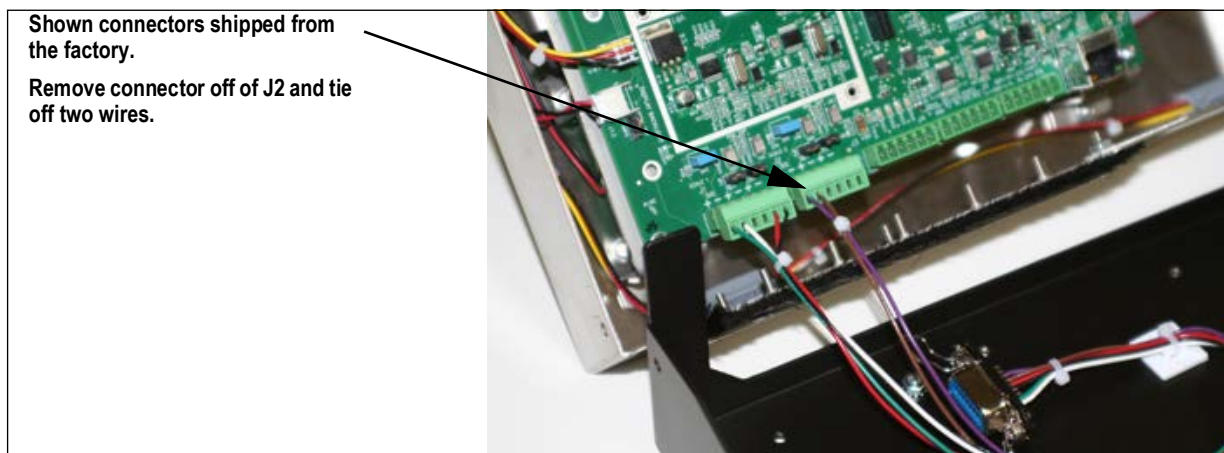

Figure 2-8. J2 Connector Location
3. Plug into the J2 connector on the CPU board (Figure 2-8 on page 16).